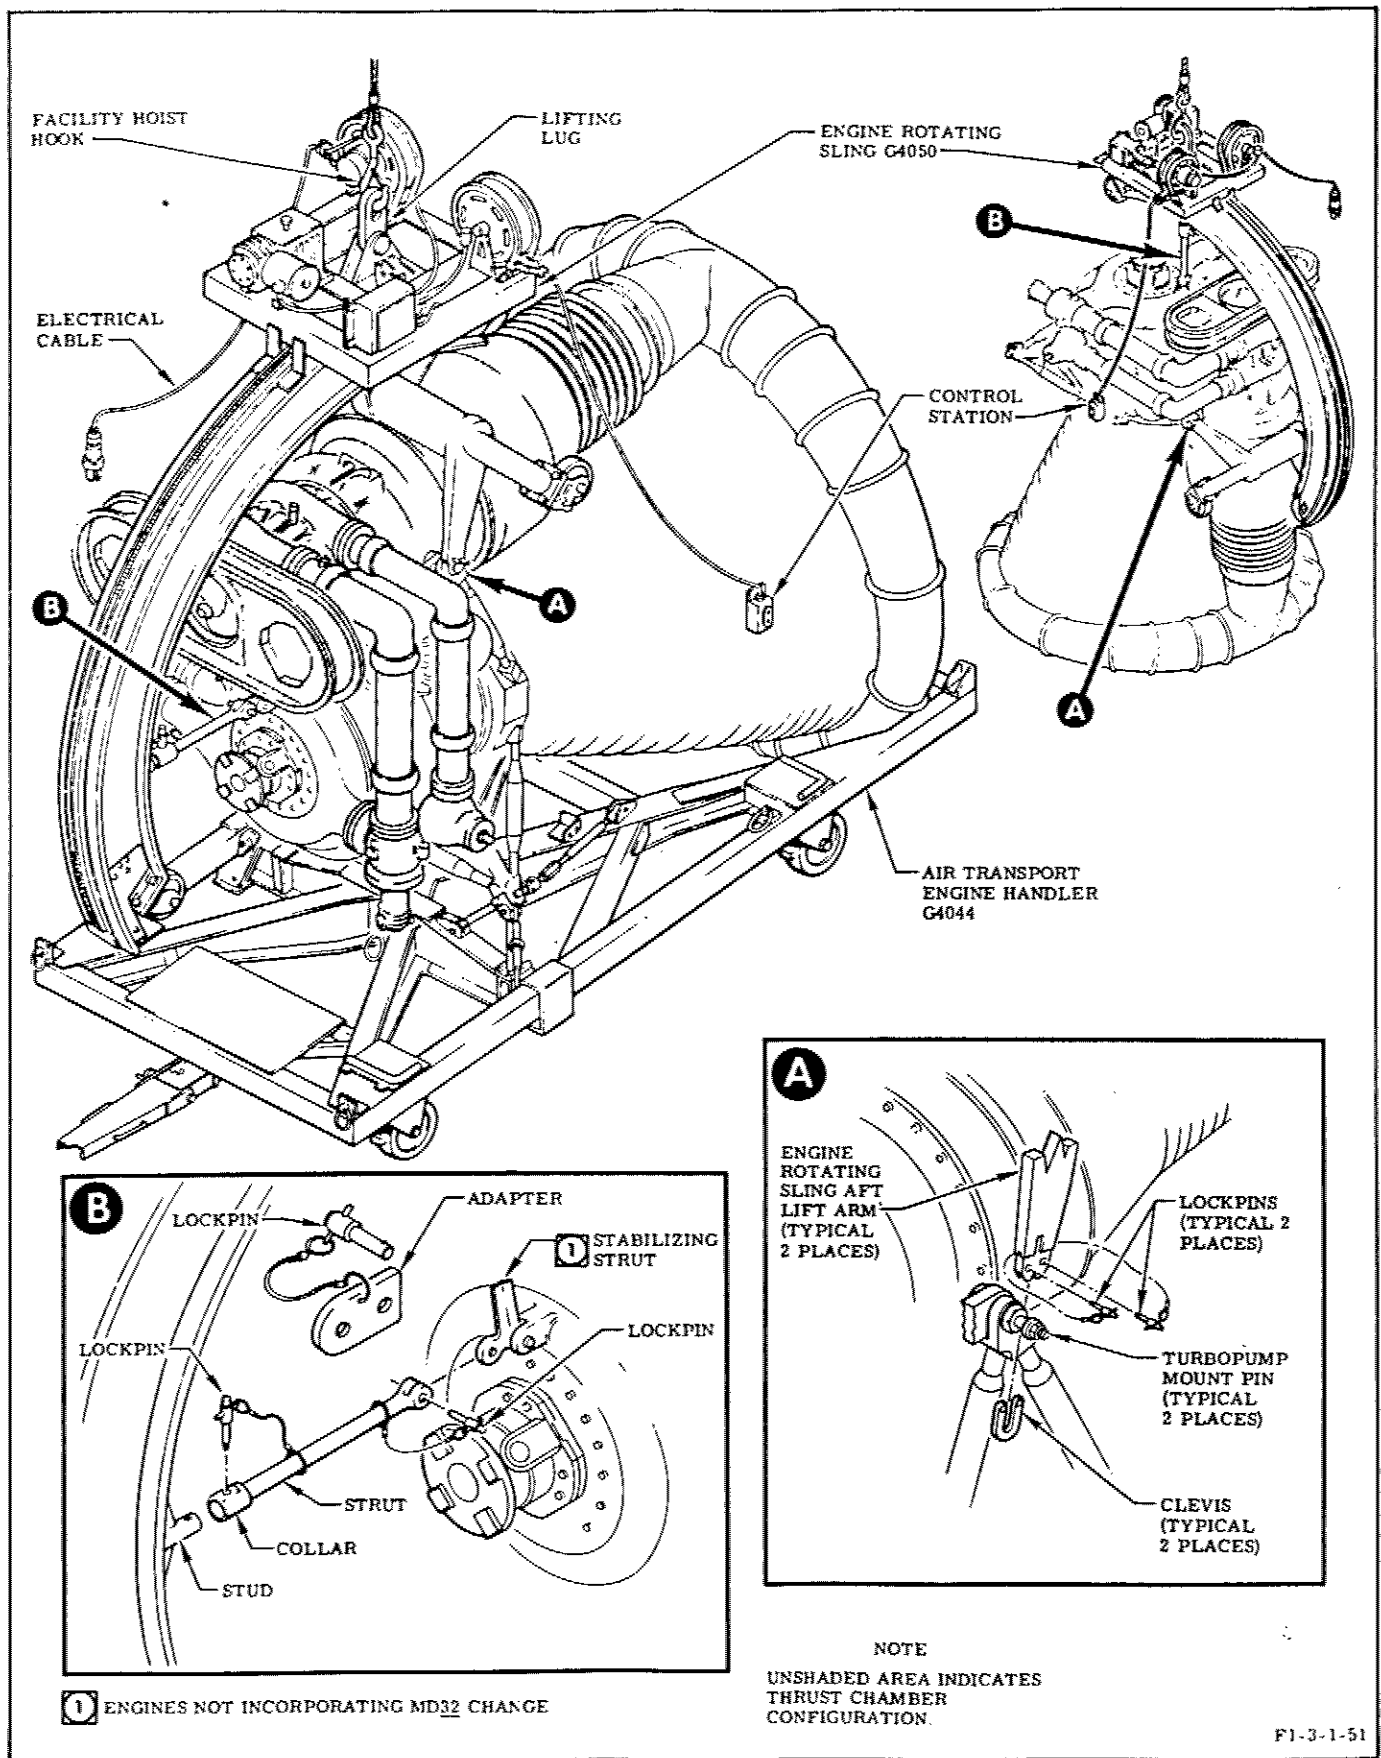

Figure 1-2. Attaching Engine Rotating Sling to Engine
**1-6. ATTACHING ENGINE ROTATING SLING TO ENGINE. (See figure 1-2.)**